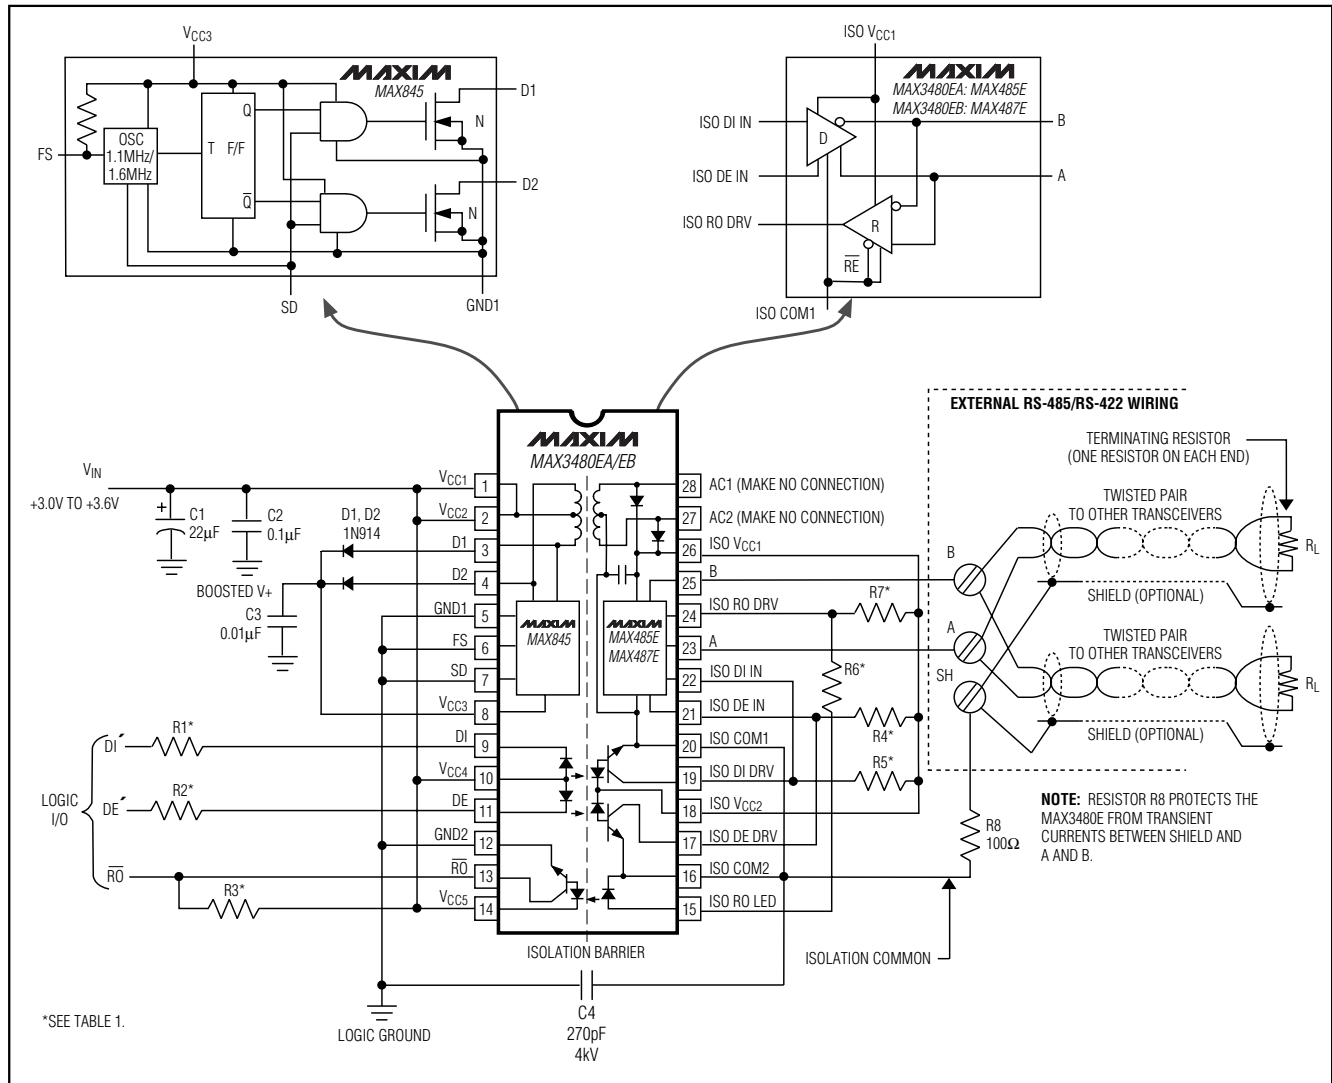

Figure 1. Detailed Block Diagram
**Note 2:** For DE' and DI' pin descriptions, see *Detailed Block Diagram* and *Typical Application Circuit* (Figure 1 for MAX3480EA/MAX3480EB).
( $V_{CC-} = +3.3V$ ,  $T_A = +25^\circ C$ , Figure 1, unless otherwise noted.)
isolation barrier (Figure 1). Power is transferred from the logic side (nonisolated side) to the isolated side of the barrier through a center-tapped transformer. Signals cross the barrier through high-speed optocouplers. A single +3.3V supply on the logic side powers both sides of the interface.
Resistor R8 (Figures 1 and 2) provides additional protection by current limiting between the shield and the two signal wires. In the event that shielded cable is used and an external voltage or transient is inadvertently applied between the shield and the signal wires, the MAX3480EA/MAX3480EB can be damaged. Although unlikely, this condition can occur during installation.